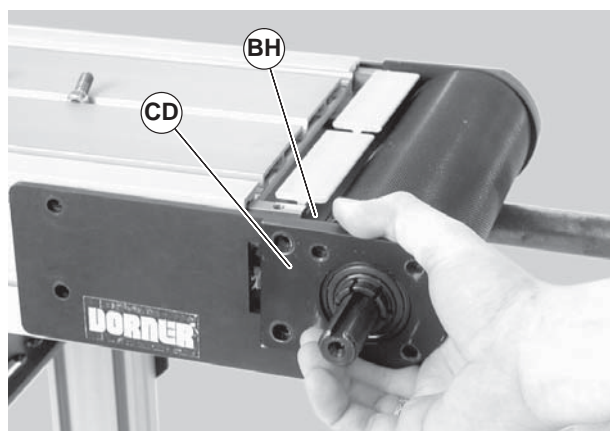

Figure 63
6. Remove the outer headplate assembly (Figure 63, item CD), and inner spacer (BH).